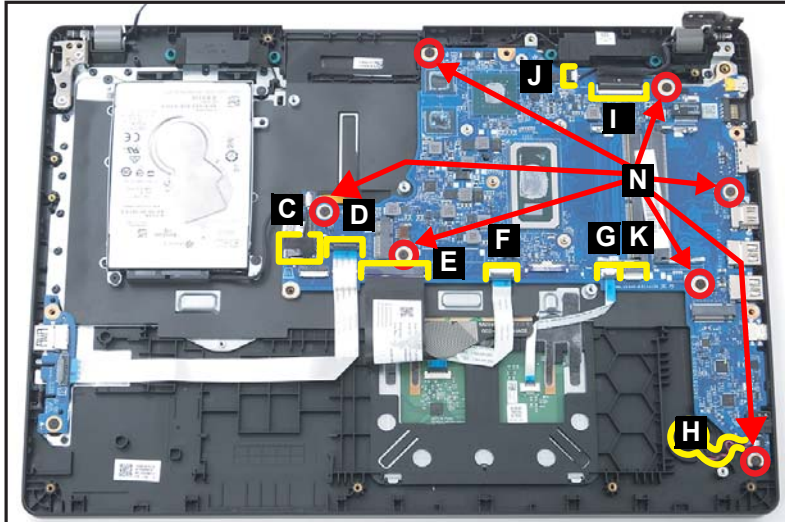

Figure 1-45. Mainboard Removal (HDD and/or NFC SKUs)
5. Disconnect the HDD cable from the mainboard connector (C) (Figure 1-45).
6. Disconnect the USB board FFC from the mainboard connector (D) (Figure 1-45).
7. Disconnect the keyboard FPC from the mainboard connector (E) (Figure 1-45).
8. Disconnect the touchpad FFC from the mainboard connector (F) (Figure 1-45).
9. Disconnect the fingerprint FFC from the mainboard connector (G) (Figure 1-45).
10. Pry to detach the adhesive tape underneath the RTC battery. Then remove the RTC battery (H) (Figure 1-45).
11. Disconnect the eDP cable from the mainboard connector (I) (Figure 1-45).
12. Disconnect the speaker cable from the mainboard connector (J) (Figure 1-45).
13. Disconnect the NFC FFC from the mainboard connector (K) (Figure 1-45).
16. Remove seven (7) screws (N) securing the mainboard in place (Figure 1-45).